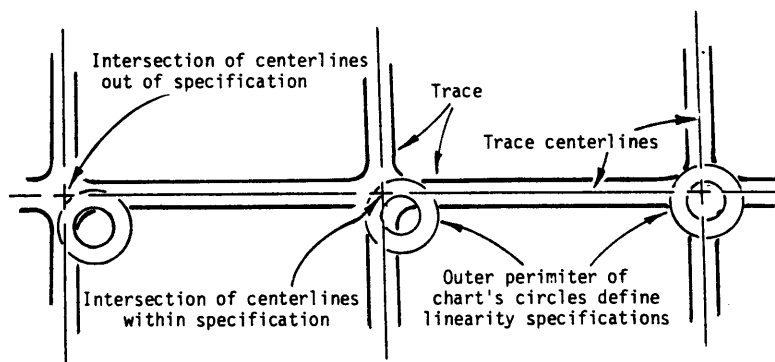

Figure 3. Correct method for interpreting CRT scale.
- B. Check that the intersections of the horizontal and vertical trace centerlines fall within the outer diameters of the scale's circles. An example is shown in Figure 3.